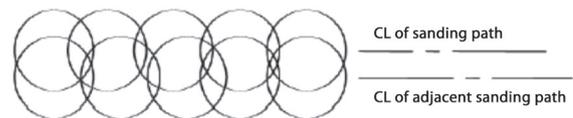
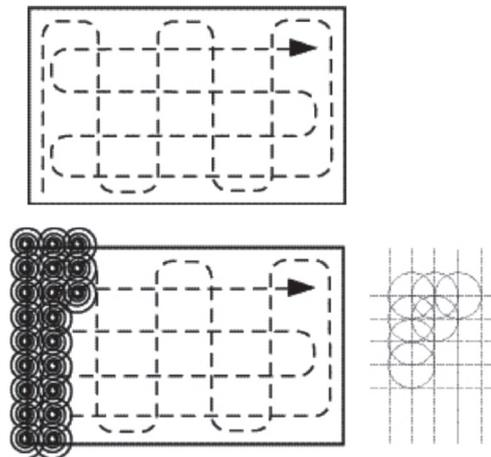

Figure B-1
Figure B-2
2. Sand the entire top to a uniform finish. Be sure to overlap sanding strokes by at least half the pad diameter and cover the entire surface. See Figure B-1. Care must be taken not to concentrate too heavily over the seam area, as this may develop an undulation or a different look in this area (especially with particulate colours).
The pattern shown in Figure B-1 should be followed across the sheet in a “North - South, East -West” pattern as shown in Figure B-2.